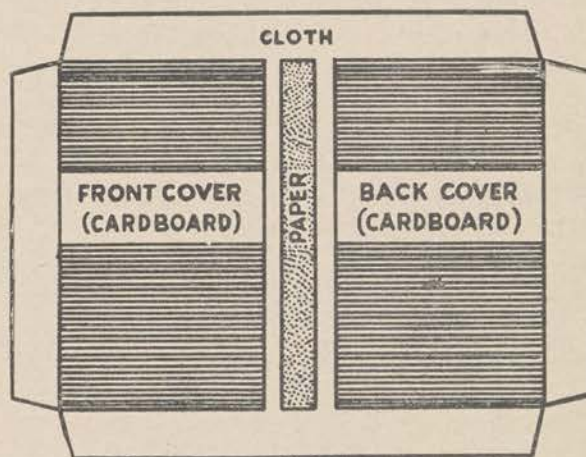

Figure 282.
c. Now prepare the new binder in the manner shown (fig. 282). The cardboard for front and back covers should be about ⅛ inch longer and wider than the book itself. The strip of paper between them is the same width as the back of the